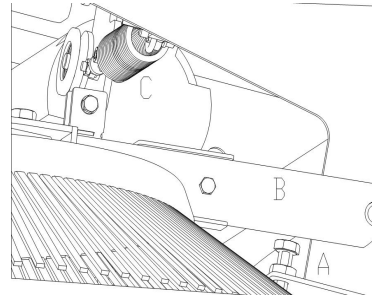

Figure 12
5. Adjust bolt A, to drop B to proper position (Figure 12);
6. Tighten the mating nut of bolt B (Figure 12);